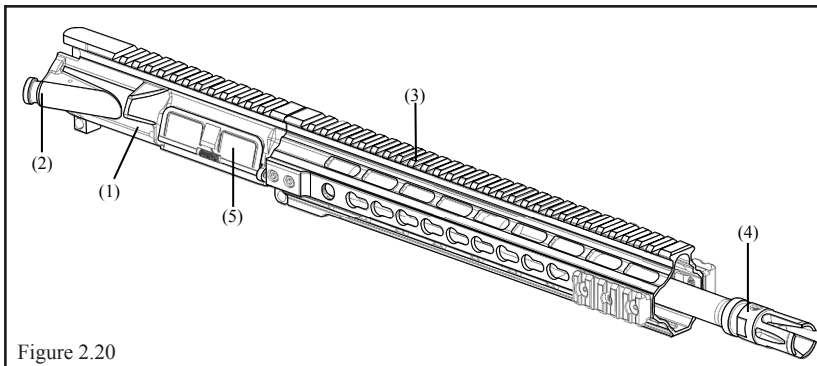

Figure 2.20
1. Inspect upper receiver (Fig. 2.20, 1) for breaks, cracks, or damage to the top rail that would prevent the attachment of accessories onto the Picatinny rail. Replace as necessary.
2. Inspect forward assist assembly (2). Ensure that the forward assist fully depresses and returns without binding. Replace defective components.
3. Inspect ejection port cover (5). Ensure the ejection port cover closes and latches as well as springs open when pushed open by either your fingers from the inside of the receiver or from the movement of the BCG. Replace defective components.
4. Check muzzle device (Fig. 2.20, 4) for looseness on barrel. A shim set or crush washer is used to properly align the muzzle device. Typically, if a logo is present, proper orientation is achieved when the logo is straight up at Top Dead Center (TDC). If loose or out of alignment repair or replace as needed.
5. Inspect top Picatinny rail of the handguard (3) for damage that would prevent the attachment of accessories onto the Picatinny rail. Replace as necessary.